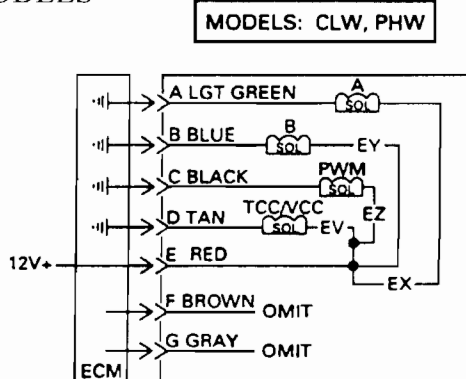

Figure 69
- (1) **VEHICLE WIRING HARNESS** - Cavity function changes to accommodate the new design wiring, as shown in Figure 69, which includes both previous and the new design electrical schematics.